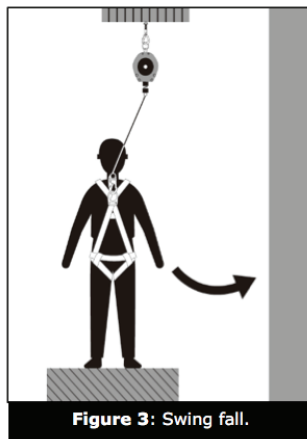

Figure 3: Swing fall.
- 4.10 SWING FALLS:** As shown in Figure 3, swing falls happen when the anchorage point is not directly above the point at which a fall occurs. The resultant force of striking an object in a swing fall may cause serious injury or death. If injury could occur, swing falls are not permitted. To minimize swing falls, the user should work as close to the anchorage point as possible. If the PFAS system involves an SRD or other variable length connecting subsystem, swing falls will significantly increase the clearance required.